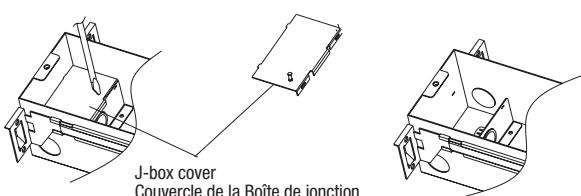

Fig. 8e
5. Pry off junction box cover by flat screwdriver, punch out appropriate hole for AC wires feed in Fig. 8e, 8f.